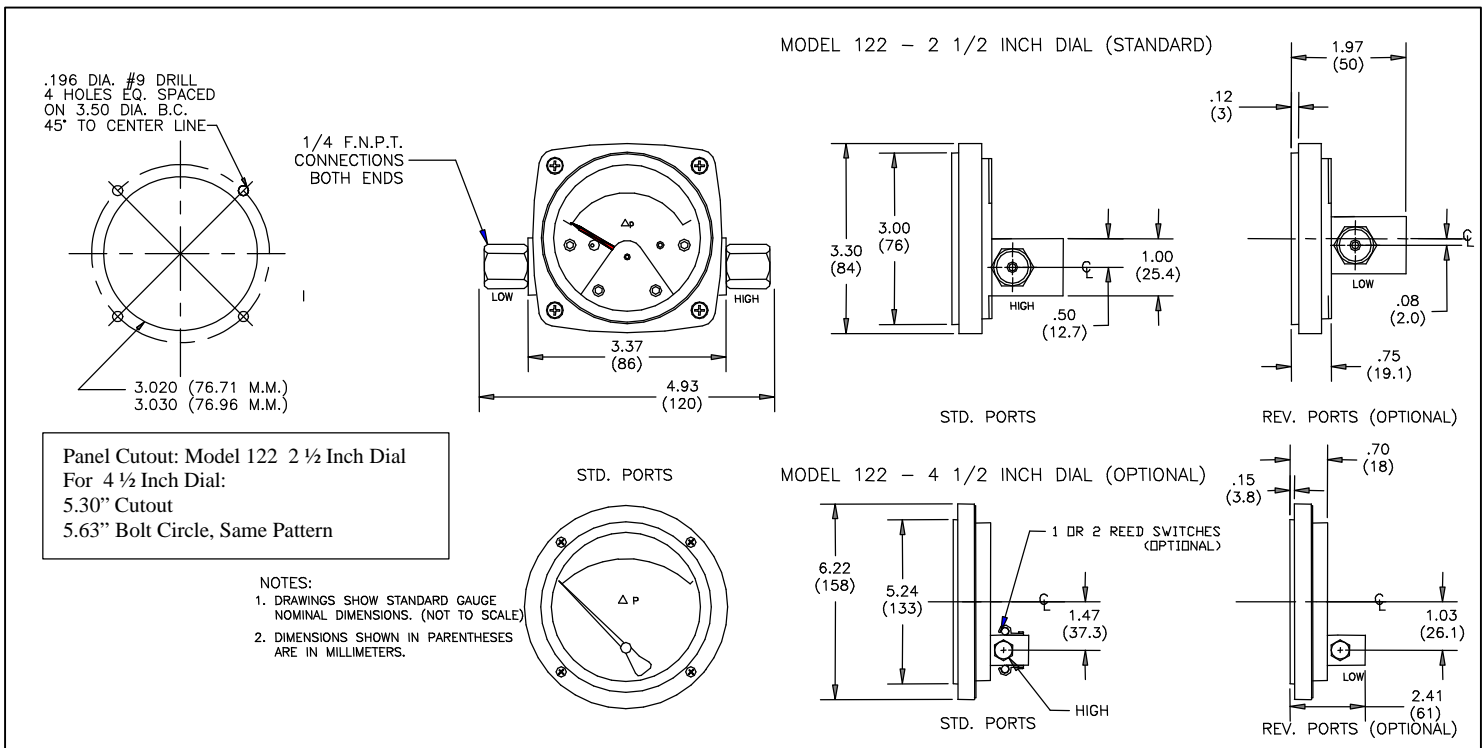

Figure 1
Gauges with 2-1/2" dials can only be mounted through the **rear** of the panel. Make the proper panel cutout as indicated in (Fig. 1). Remove the (4) bezel screws. Insert the gauge front through the rear of the panel and reinstall the bezel screws through the front of the panel and into the gauge bezel. Tighten the screws securely, alternating in a **diagonal** pattern.
Gauges with 4-1/2" dial should be mounted from the **front** of the panel. Make the cutout as indicated in (Fig. 1). Insert the (4) panel mounting studs, finger tight, into the metal inserts located in the rear of the bezel. Insert the gauge through the panel, aligning the panel mounting studs with the holes in the panel. Install the (4) #8-32 nuts onto the studs and tighten securely.